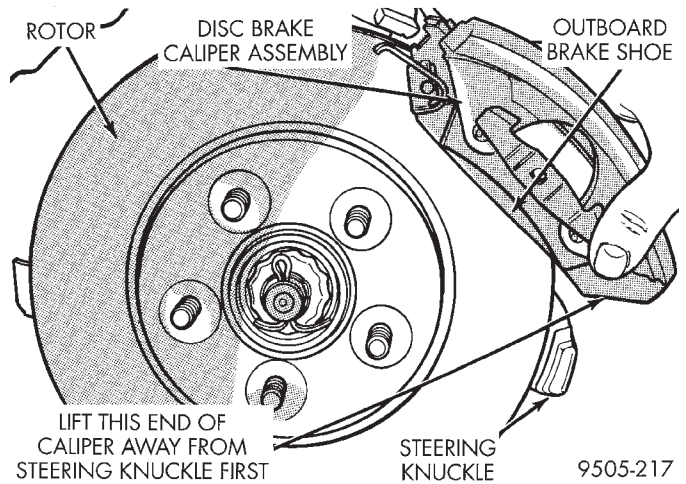

Fig. 64 Brake Caliper Assembly Removal And Installation
(4) Remove disc brake caliper assembly from steering knuckle. Caliper is removed by first lifting bottom of caliper away from steering knuckle, and then removing top of caliper out from under steering knuckle (Fig. 64).
(4) Install disc brake caliper assembly on steering knuckle. Caliper is installed by first sliding top of caliper under top abutment on steering knuckle. Then installing bottom of caliper against bottom abutment of steering knuckle (Fig. 64).